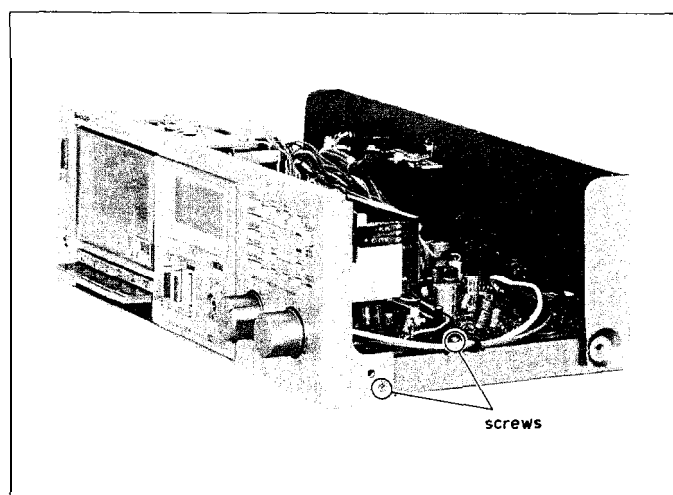

Figure 5-2
6. Remove the one (1) screw from the main P.W.B. (Refer to Figure 5-2.)